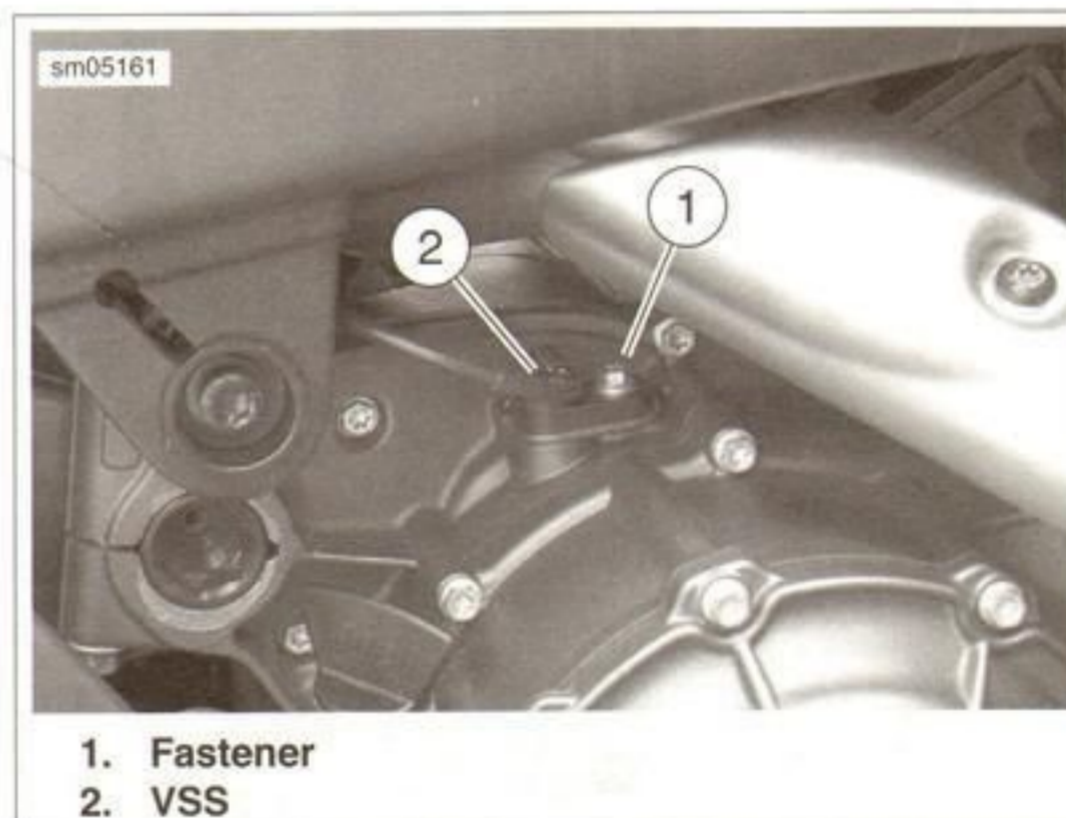

Figure 7-96. Vehicle Speed Sensor
7. See Figure 7-96. Remove fastener (1) to detach VSS (2) from crankcase.
2. See Figure 7-96. Install VSS (2) to crankcase and secure with fastener (1). Tighten fastener to 11 Nm (97 **in-lbs**).